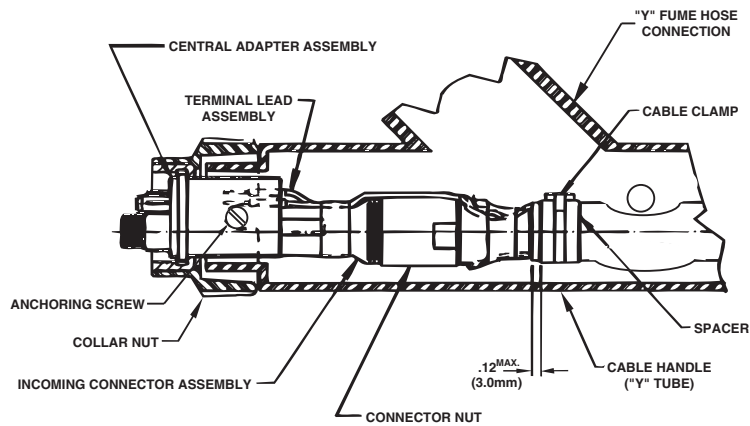

Figure D.2
Assemble the incoming connector to the cable by forcing the steel tube of the connector into the inside diameter of the cable inner tube until the copper strands are butted against the incoming connector shoulder. Keeping the copper strands against the shoulder, pull the connector nut over the copper strands, engage the incoming connector threads, and tighten in place. Refer to Figure D.2.
- p) Reinstall the nut and bolt through the “Y” tube and hose, keeping the cable opposite of the “Y” fume hose connection (See Figure D.2).